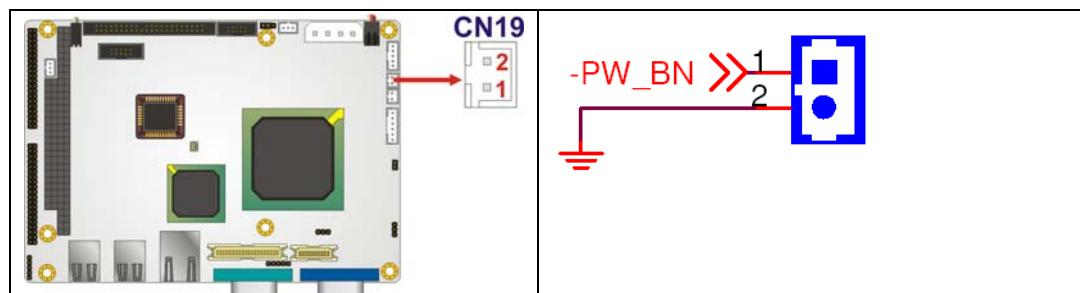

Figure 4-14: Power Button Connector Location
4.2.12 Power Button Connector**CN Label:** CN19**CN Type:** 2-pin wafer (1x2)**CN Location:** See **Figure 4-14****CN Pinouts:** See **Table 4-14**